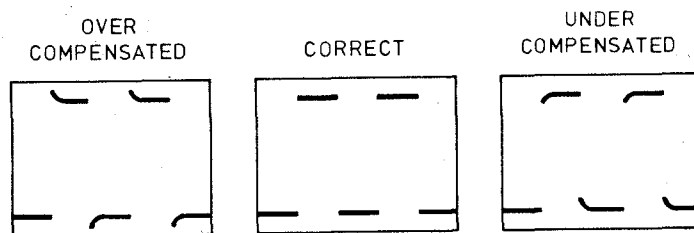

Fig. 3.25.
- Insert a small screwdriver through the hole in the compensation box and adjust the trimmer to obtain a correct display as shown in Fig. 3.25.